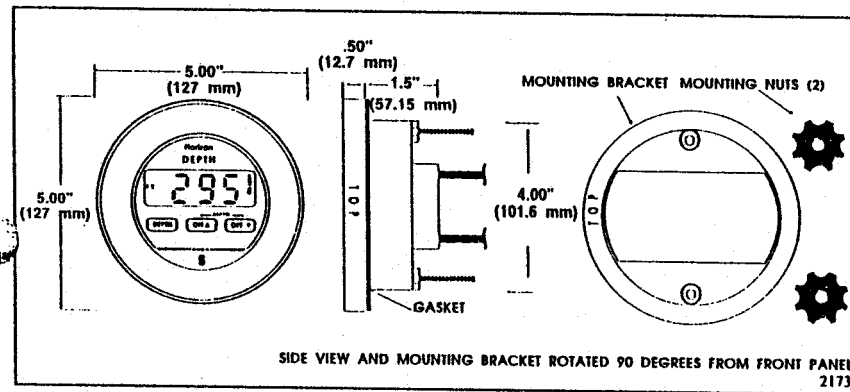

Figure 3. Depth Sounder Dimensions
The instrument can be easily installed in different types of instrument panels. Refer to Figures 3 and 4 for the following steps.
- The space behind the instrument panel must have a depth of at least 2 1/4 inches. See Figure 3 for dimensions of the instrument.